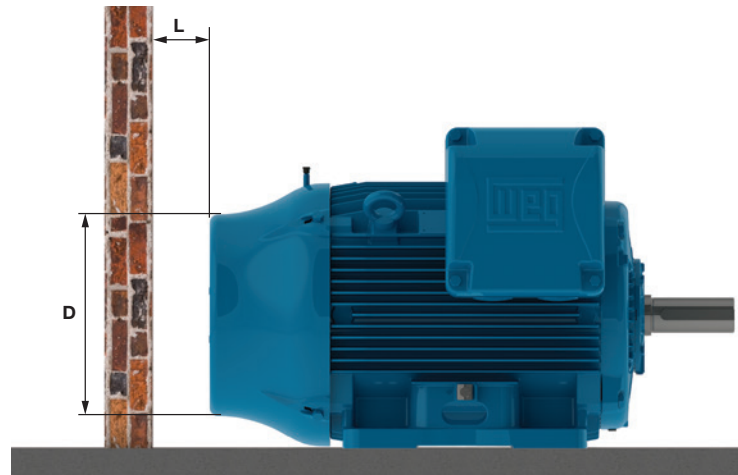

Figure 49 - Minimum clearance to the wall
- Ensure that the air inlet and outlet opening are not blocked. The minimum clearance to the nearest wall (L) should be at least $\frac{1}{4}$ of the fan cover diameter (D), see Figure 49. The intake air temperature must be at ambient temperature.